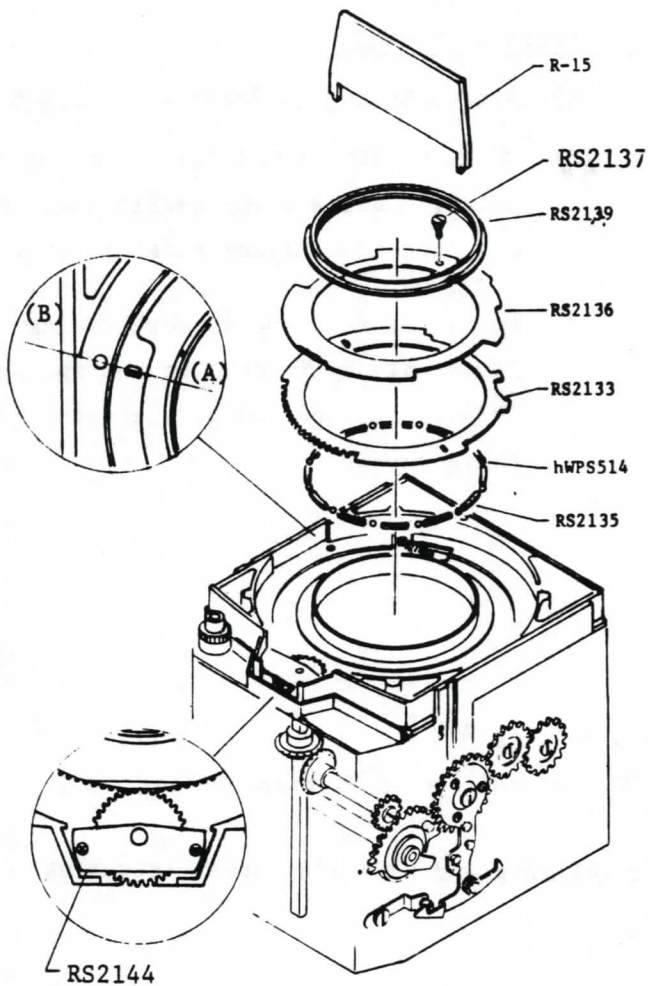

Fig 22
- (1) Mirror raising lever is hooked on the hang lever .
- (2) Coupling hole (A) of the cocking ring nearly coincides with the bayonet setscrew (B) as shown in Fig. 22.
- (3) Position Catch plate so that the gear of the cocking shaft (RS2141K2) mesh well.